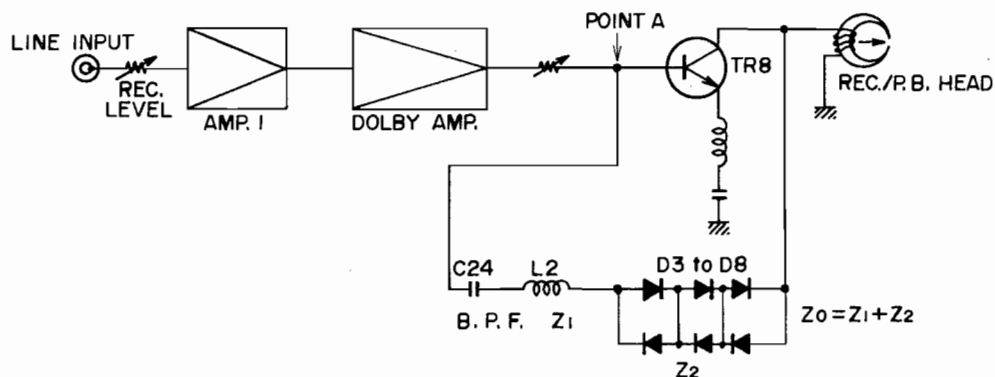

Fig. 52 A.D.R. Block Diagram (at Rec. mode)
1) Refer to Fig. 52
3) Refer to Fig. 52
However, at this time, TR8 output passes the A.D.R. element which is comprised of D3 through D8, and the f_o vicinity frequency only is allowed to pass the B.P.F. and is supplied to point (A) in Fig. 52.